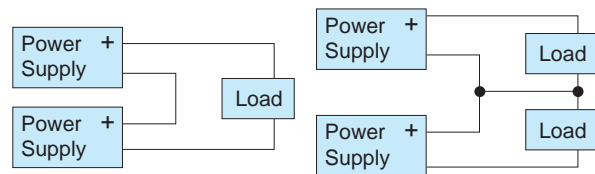

Fig.3.1 Examples of series operation
■Parallel operation is show in Fig.3.1.